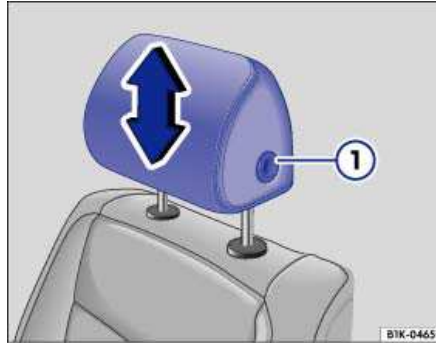
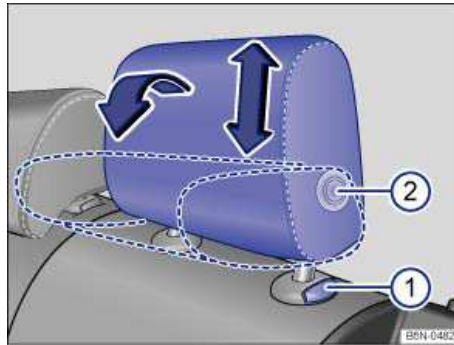

Fig. 47 Adjusting the front head restraints.
Fig. 48 Adjusting or folding the rear head restraints.
- Push the head restraint up in the direction of the arrow or down when the button ⇒ fig. 47 \(1\) or ⇒ fig. 48 \(1\) is pressed ⇒ .